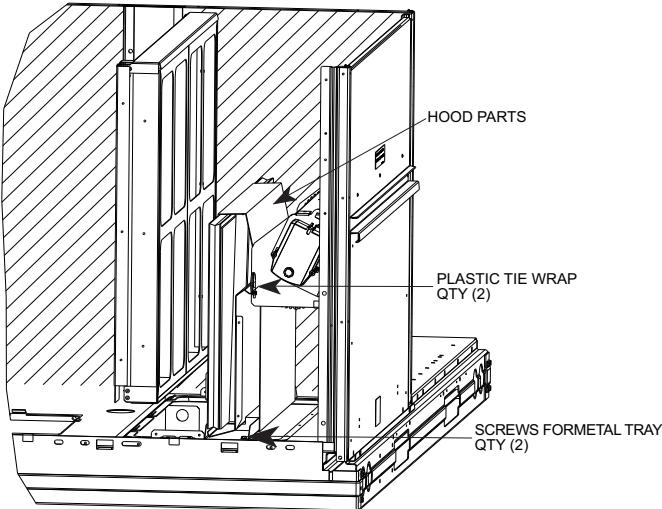

Fig. 22 — Economizer and Two-Position Damper Hood Parts Location (Sizes 07-14)
3. Locate the (2) screws holding the metal tray to the basepan and remove. Locate and cut the (2) plastic tie-wraps securing the assembly to the damper. (See Fig. 22.) Be careful to not damage any wiring or cut tie-wraps securing any wiring.